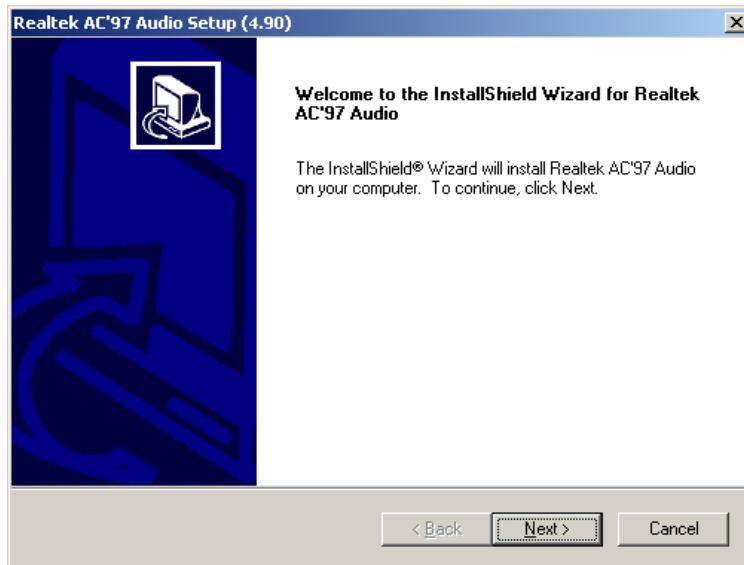

Figure 7-22: InstallShield Wizard Welcome Screen
Step 6: Once initialized, the InstallShield Wizard welcome screen appears (Figure 7-22).